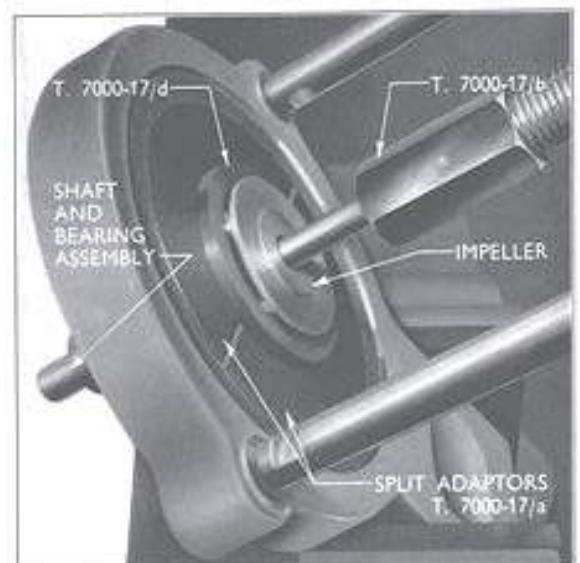

Fig. 38
3. Press the impeller off the end of the shaft, using the solid ring adaptor (T.7000-17d) in the split adaptors as shown on Fig. 38.